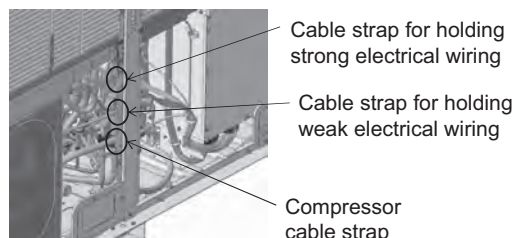

Figure 4
- (6) Remove the 3 cable straps from the center pillar. (See Figure 4.)